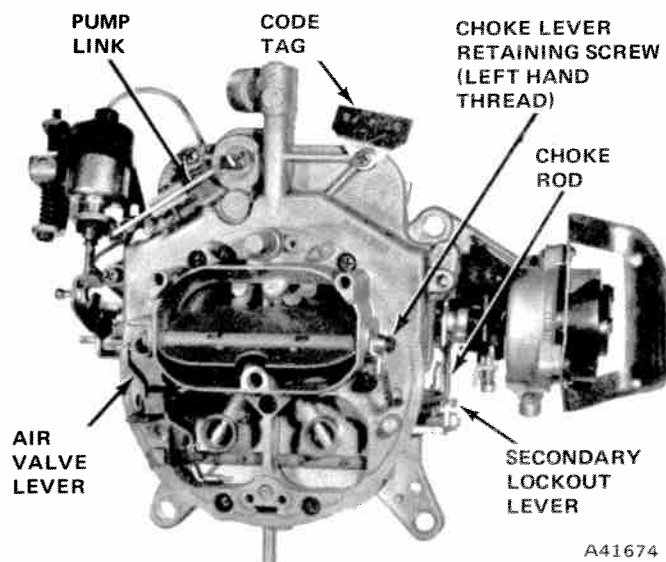

Fig. 4-65 Model 4300 Carburetor - Top View
(1) Remove fuel inlet line from fuel filter.
(2) Remove choke clean-air pickup connecting tube from air horn.
(3) Remove choke control rod retainer from automatic choke lever. Separate rod from lever.
(4) Remove accelerator pump spring and washer from pump rod. Separate rod from lever.
(5) Remove air cleaner anchor screw and remove air-horn-to-fuel-bowl attaching screws (fig. 4-65).